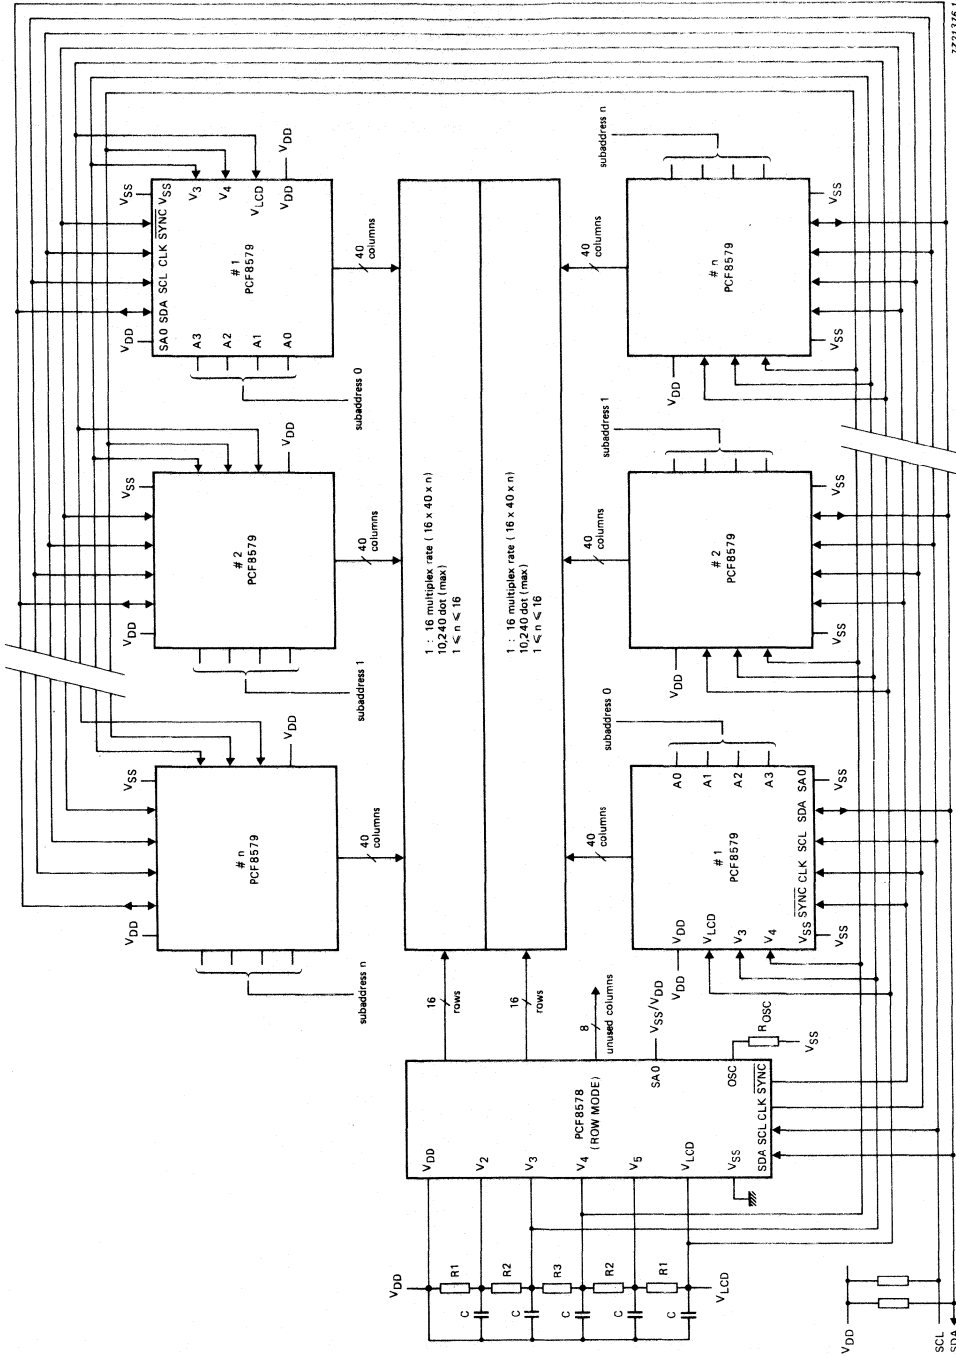

Fig. 3 Example of split screen application with 1 : 16 multiplex rate for improved contrast.
**Table 2** Multiplex rates (see Fig. 3)